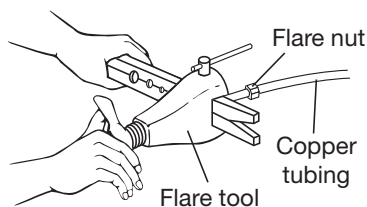

Figure 11
4. Make a flare at the end of copper tube with a flare tool (Figure 11).